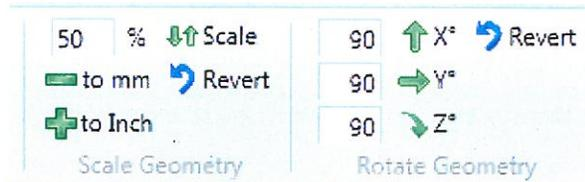

Figure 8: Rotate and Scale Options
8. To **ROTATE** the object in the X, Y, or Z-axis, or to scale the object, choose the appropriate options located on the top of the screen (Figure 8).